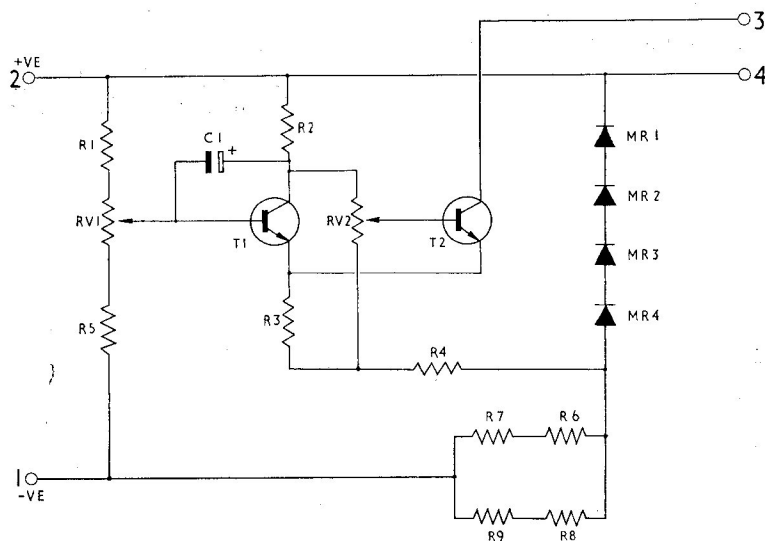

Fig. 4. Circuit diagram
4. Terminals 1 (negative) and 2 (positive) are connected to the generator output. Terminals 3 and 4 are connected to the coil of the associated relay (*fig. 4*). As the voltage across the potential divider network between terminals 1 and 2 increases, the base potential of transistor T1 is maintained positive with respect to the emitter. T1 therefore passes more current with increase in supply voltage. Due to the voltage drop in resistors R2 and R3, the base/emitter potential of transistor T2 is reduced to such an extent that T2 is switched "hard off".
8. The potentiometers RV1 and RV2 provide adjustment of pick-up and drop-out voltages respectively, while R6 to R9 are incorporated to effect power dissipation. Capacitor C1 prevents nuisance tripping of the relay by utilizing transient feed back to effect a short time delay in the transient operation (*fig. 4*).
11. Electrical connections are made via four 4 B.A. screw and washer terminations (numbered 1 to 4) in the moulded base. The internal connections are shown in the circuit diagram (fig. 4).